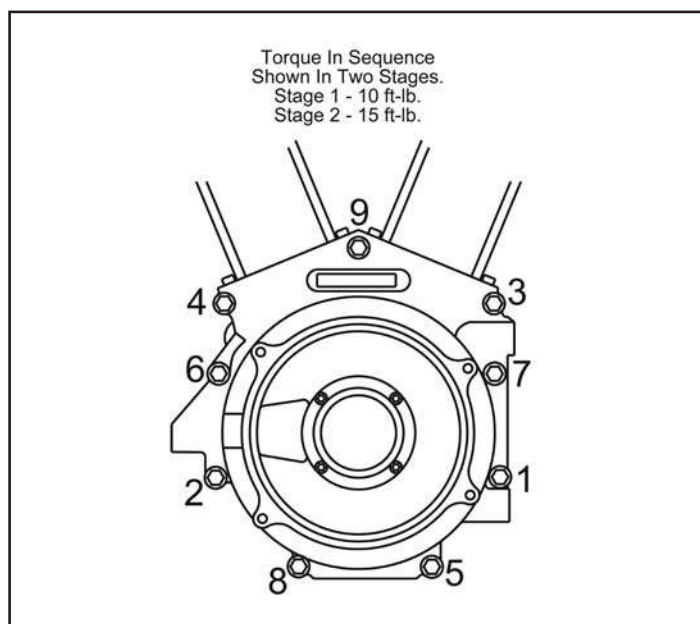

Figure 1
- When assembling crankcases that have been bored to accept big bore cylinders, use S&S torque specifications for crankcase bolts. See Figure 1.
- A. Bolt crankcases together as an assembly. Use special S&S center case bolt with special washers installed in the order shown in **Picture 5**. Torque case bolts in two stages to 10 ft-lb. and finally 15 ft-lb. in the sequence shown in **Figure 1**.
- B. Bolt crankcases together as in assembly. Use special S&S center case bolt with special washers installed in the order shown. Torque case bolts in two stages to 10 ft.-lb. and finally 15 ft.-lb. in the sequence shown in Figure 1.